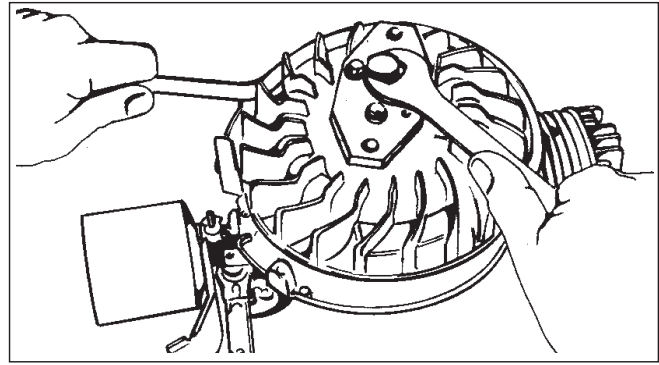

Fig. 5
- Place tool 670306 as per Fig 5 locating the centre bolt on to the crankshaft.
By using a 11/16 wrench, the centre bolt can now be tightened. In this way the flywheel can be removed (see Fig 5). For remounting the flywheel, proceed as usual.